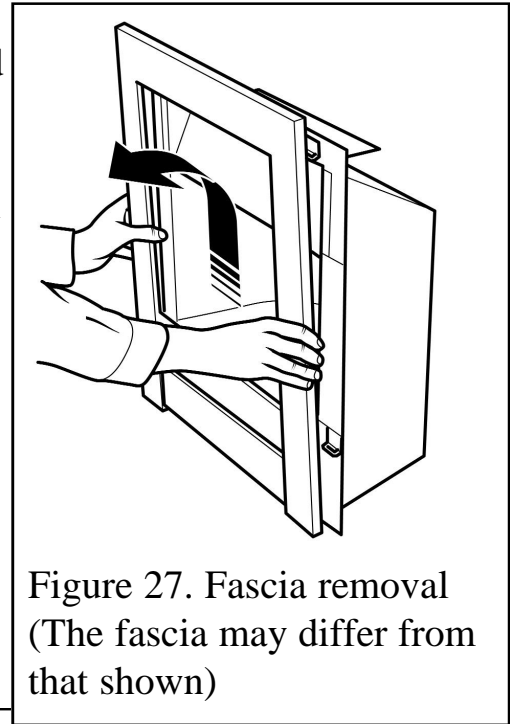

Figure 27. Fascia removal
2. The fascia is held in place by four hooked brackets at the back of the fascia. These slot into four retaining brackets on the hotbox. To remove the fascia, hold the sides of the fascia and lift upward and forward. The fascia should lift clear of the hotbox (See figure 27)